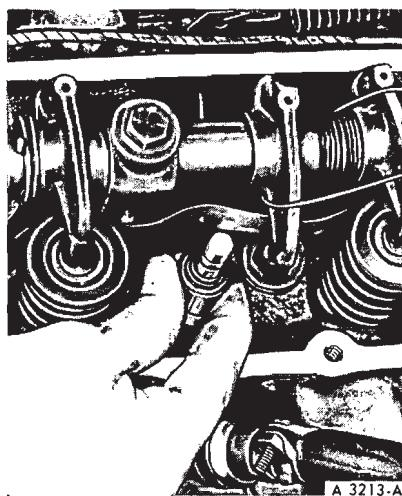

FIG. 21—Removing Valve Stem Seal
6. Remove the valve spring and related parts. Remove the valve stem seal (Fig. 21). If air pressure has forced the piston to the bottom of the cylinder, any removal of air pressure will allow the valve(s) to fall into the cylinder. A rubber band, tape or string wrapped around the end of the valve stem will prevent this condition and will still allow enough travel to check the valve for binds.